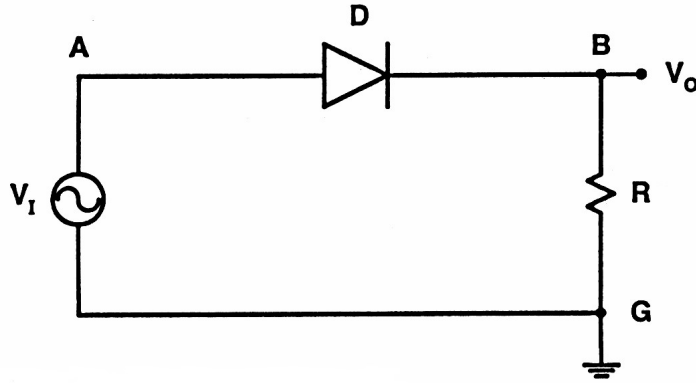

Figure 1: The Basic Rectifier Circuit.
- Assemble the circuit shown in Fig. 1, using a 1N4001 diode and 1 kΩ resistor.